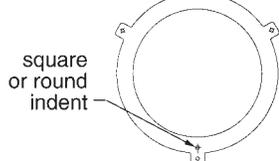

Figure 3A
- Disconnect coil lead wires and remove support plate assembly (142) by unscrewing and removing three screws (142S).
A) 1-1/2 and 6 lb-ft universal mount and 20 and 25 lb-ft horizontal mount. When replacing any of these components, be certain to reassemble new friction disc(s) and stationary disc(s) in the same order, being sure all slide freely without binding. Separator springs are not required on these brake applications. Stationary discs must be inserted with the indent marking outward from the motor. See Figure 3A.